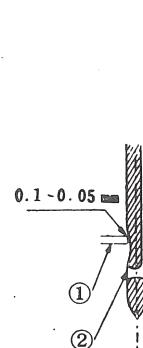

Fig. 40
The clearance between the needle ② and the tip of the sewing hook ① should be as little as possible as long as the hook does not hit the needle (0.05—0.1 mm) and tighten the screws. To determine the height of the needle bar, push the knee lifter so that the width of throw becomes greatest. Rotate the hand wheel to make the needle drop to left side and rotate the hand wheel further until the left throwing needle and the tip of the sewing hook meet each other and stop the hand wheel. (Fig. 40)